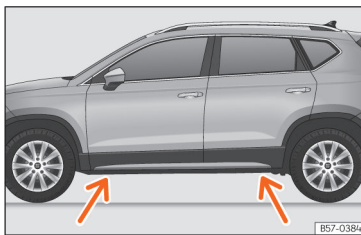

Fig. 225 Jack position points.
- Look on the strut for the mark of the jack support point (sunken area) closest to the wheel to be changed >>> **Fig. 225**.